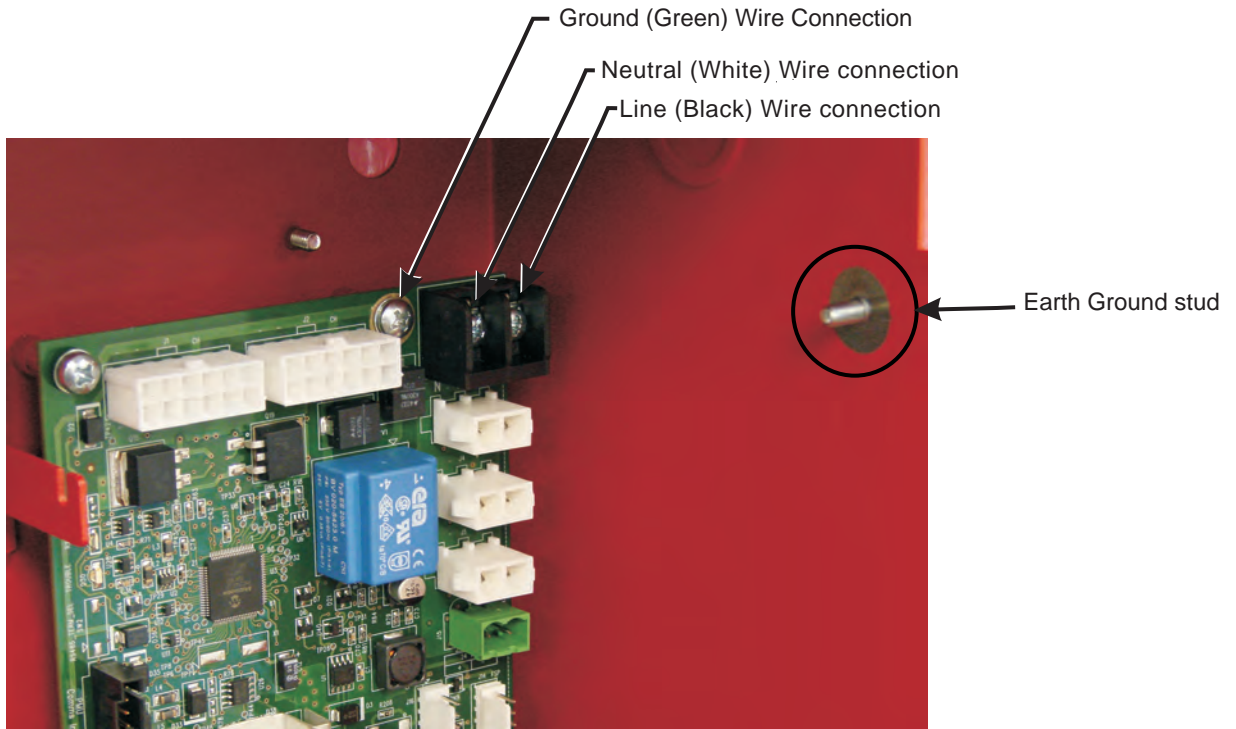

Figure 2-12. AC Connections to PMU Board
7. Position the 5-in. ground wire assembly over the right topmost screw hole (located beside the AC power input connector). Refer to Figure 2-12 for location of screw hole. Insert the 5/8-in. standoff and mounting screw; hand-tighten.
1. Run AC-input wiring to the right side of the enclosure and bring it through one of the top knockouts on the right. Refer to Figure 2-12 for AC power connection locations.